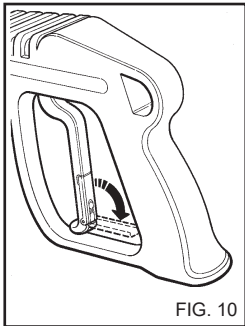

FIG. 10
- When the appliance is not in use, close the safety device on the handgrip. (Fig. 10).